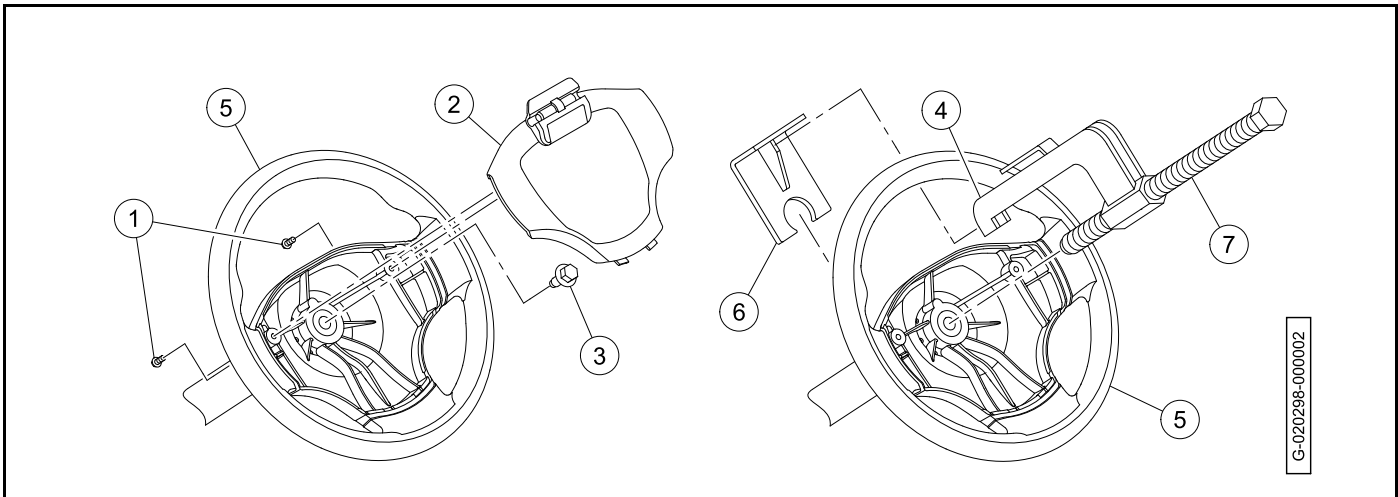

Figure 7-1
4. Remove the screws (1) (Figure 7-1).